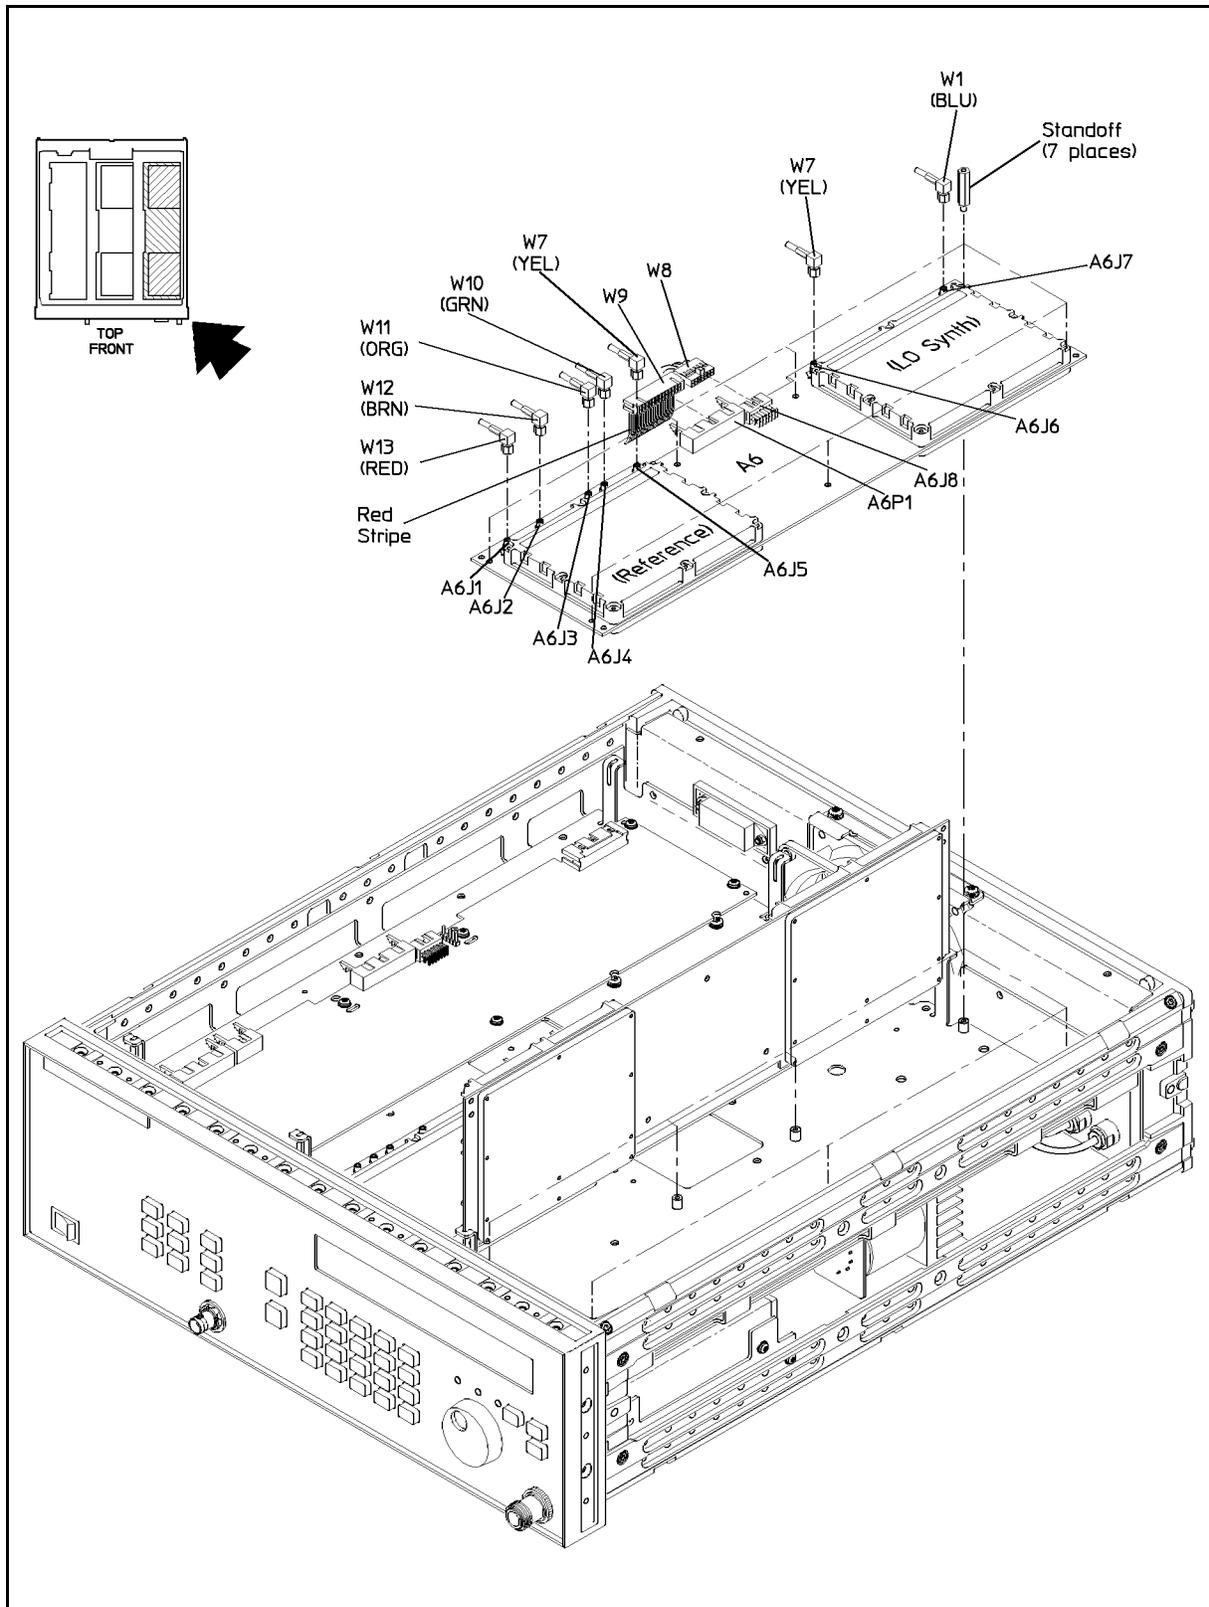

Figure 5-24. LO Synthesizer and Reference Board Removal
1. In the introduction to this chapter, refer to “Multi-wire Cables” and Figure 5-24. Then, disconnect the following cables:
2. Refer to “Flexible Coaxial Cables” and Figure 5-24. Then, disconnect the following cables using a 15/64 in end wrench: